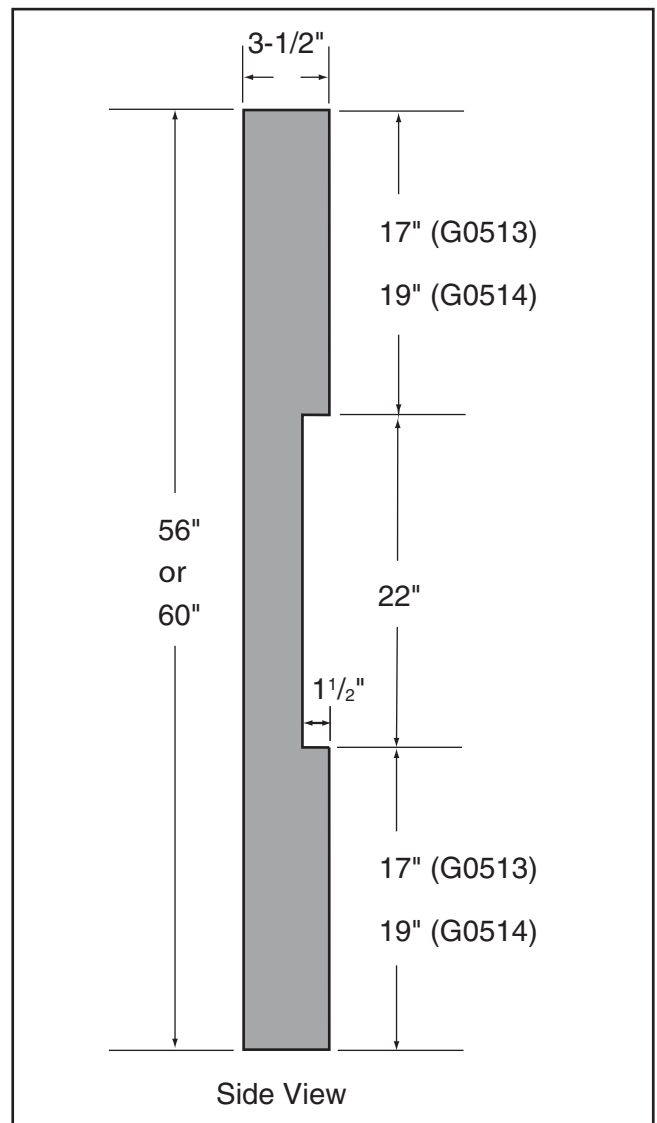

Figure 62. Dimensions of coplanarity gauge.
1. Make the "Coplanarity Gauge" shown in **Figure 62**.